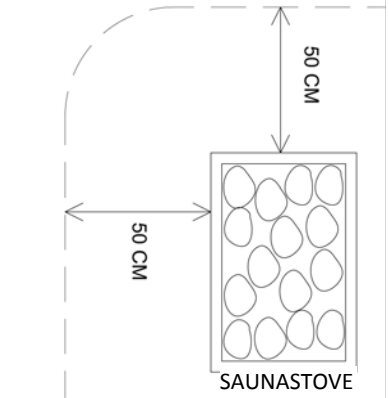

Fig. 2
5. Fasten the lamp base to the desired mounting surface using the expansion screws. Do not install it above a sauna stove and please keel a minimum distance of 50 cm (fig. 2).